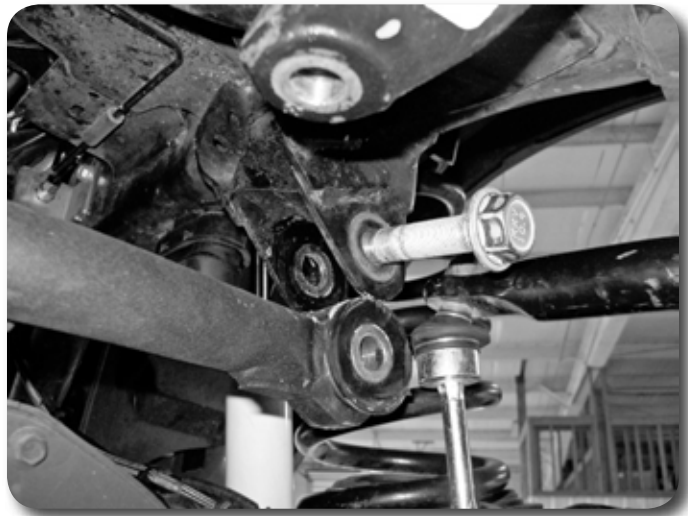

Figure 1
2. Remove the front trackbar hardware from the frame. Keep the bolt and nut tab for reinstallation later. (Fig 1)